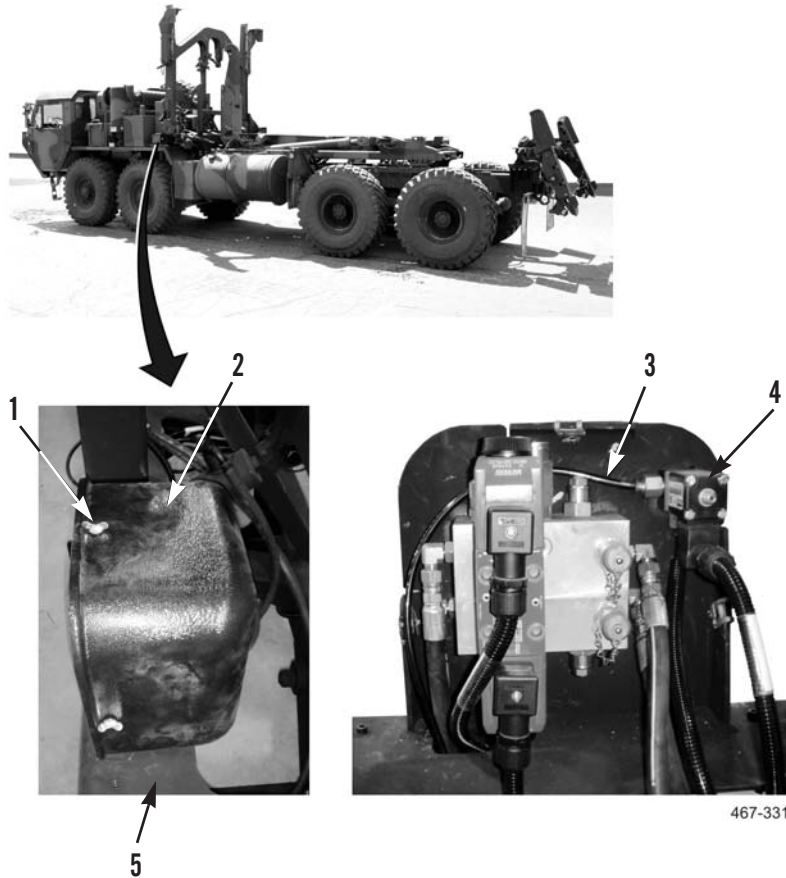

Figure 1. Solenoid Valve Supply Hose Removal.
1. Loosen three locking screws (Figure 1, Item 1) and remove solenoid cover (Figure 1, Item 2) from stowage assembly (Figure 1, Item 5).
2. Remove pneumatic supply hose (Figure 1, Item 3) from solenoid valve (Figure 1, Item 4).